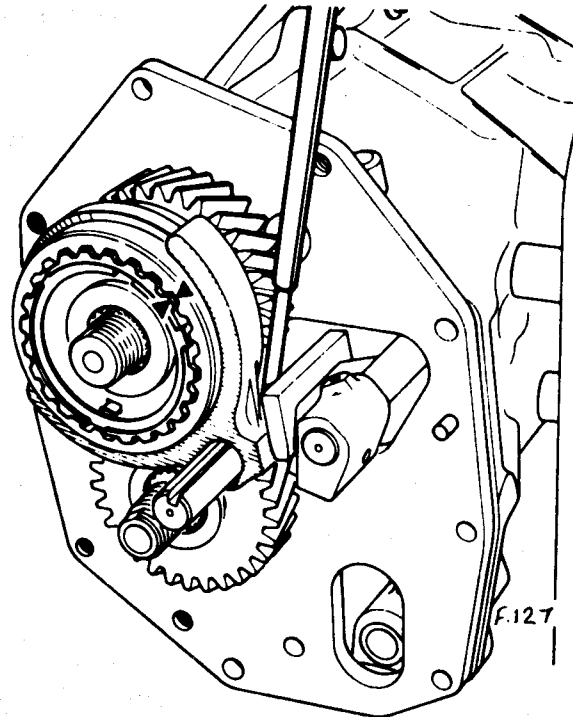

Fig. 65.
10. Push out the 5th. speed fork roll pin (see Fig.65) using the drift (Part No. X046 F 6180Z).